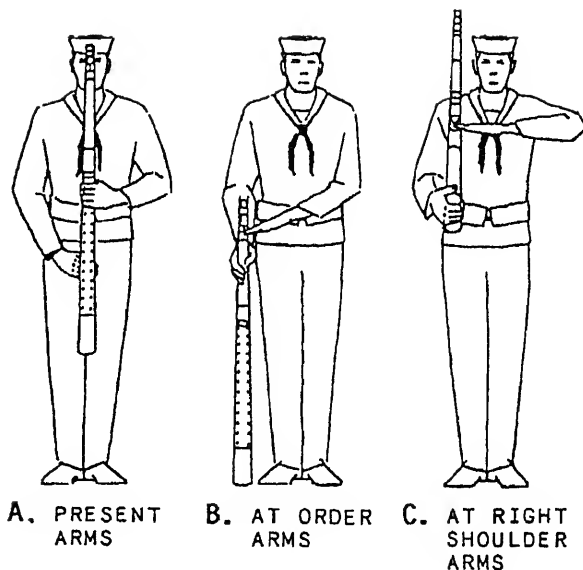

Figure 4-5.—Rifle salutes.
1. Present arms (fig. 4-5, view A)
2. Rifle salute at order arms (fig. 4-5, view B)
3. Rifle salute at right shoulder arms (fig. 4-5, view C)